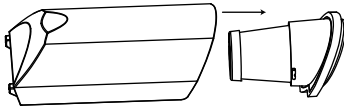

Fig. 8
2. Take out the filter set from the dust container, turn the container upside down and dump the dust out. (see Fig. 8 & 9)